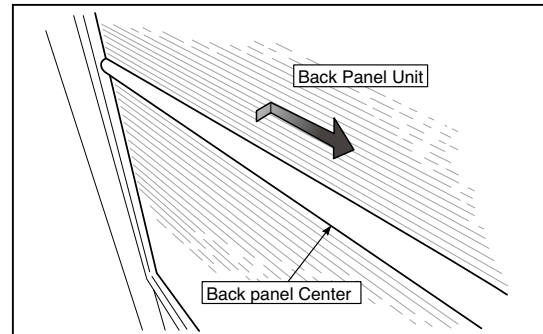

Fig.13
2. Slide the Back Panel and remove it while pushing the Back Panel Unit corner shown in the figure 13 forward.